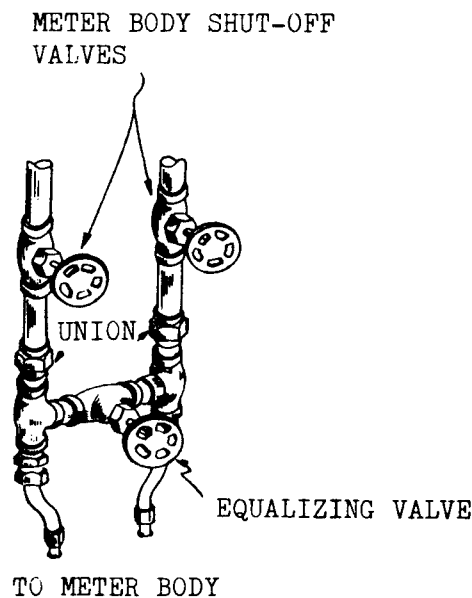
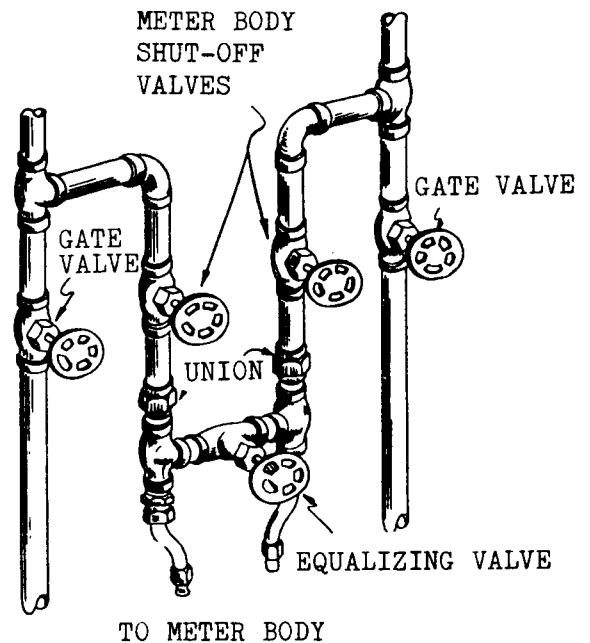

Figure 1. Installation using direct connections and standard manifold.
Figure 2. Typical blow down piping installation.
b. Installations Using Direct Connections and Standard Manifold (Figure 1)
- (1) Close the HP meter body shut-off valve on the piping manifold.
- (2) Open the equalizing valve on the piping manifold and close the LP meter body shut-off valve in that order.
- (3) Slowly crack open one of the meter body vent-drain screws to relieve pressure, then retighten.
- (4) Disconnect the unions (or flanges) to the meter body.
- (5) Position the connecting piping so that discharge of the flowing medium will not come in contact with the meter body.
- (6) Slowly open the HP and LP meter body shut-off valves permitting the flowing medium to discharge through the piping until it is clear of sediment.
- (7) Close the HP and LP meter body shut-off valves on the piping manifold.
c. Installations Using Blow-Down Piping (Figure 2)
- (3) Slowly open the HP and LP blow-down valves, permitting both lines to discharge flowing medium until it is clear of sediment.
- (4) Close the HP and LP blow-down valves, pressure-tight.